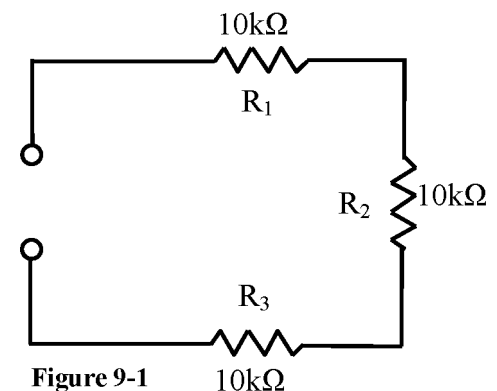

Figure 9-1
- Connect the circuit as shown in Figure 9-1.